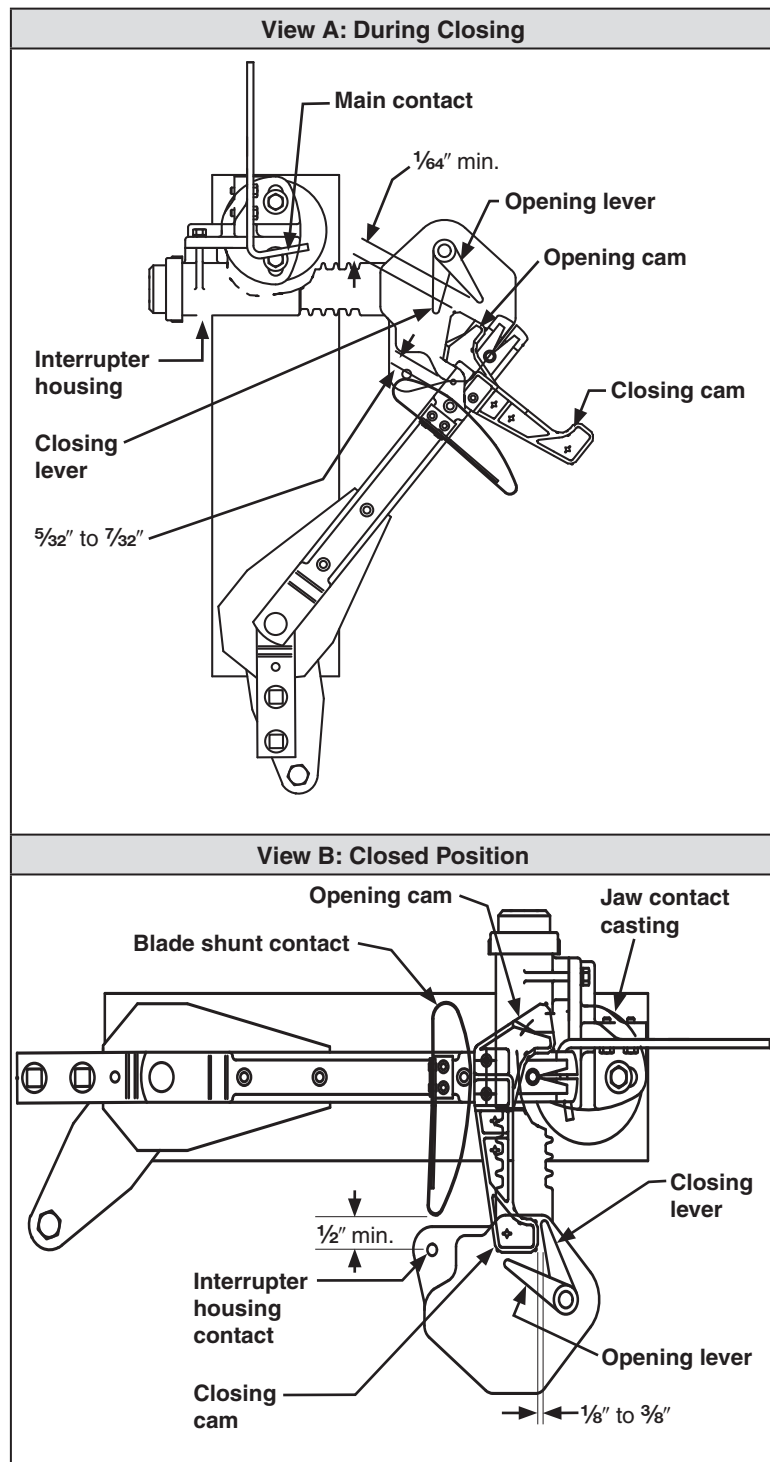

Figure 17. Operating checkpoints for switches rated 25 kV.
- Open the switch and place the blade in the position shown in Figure 17, View A. The following conditions should be met: